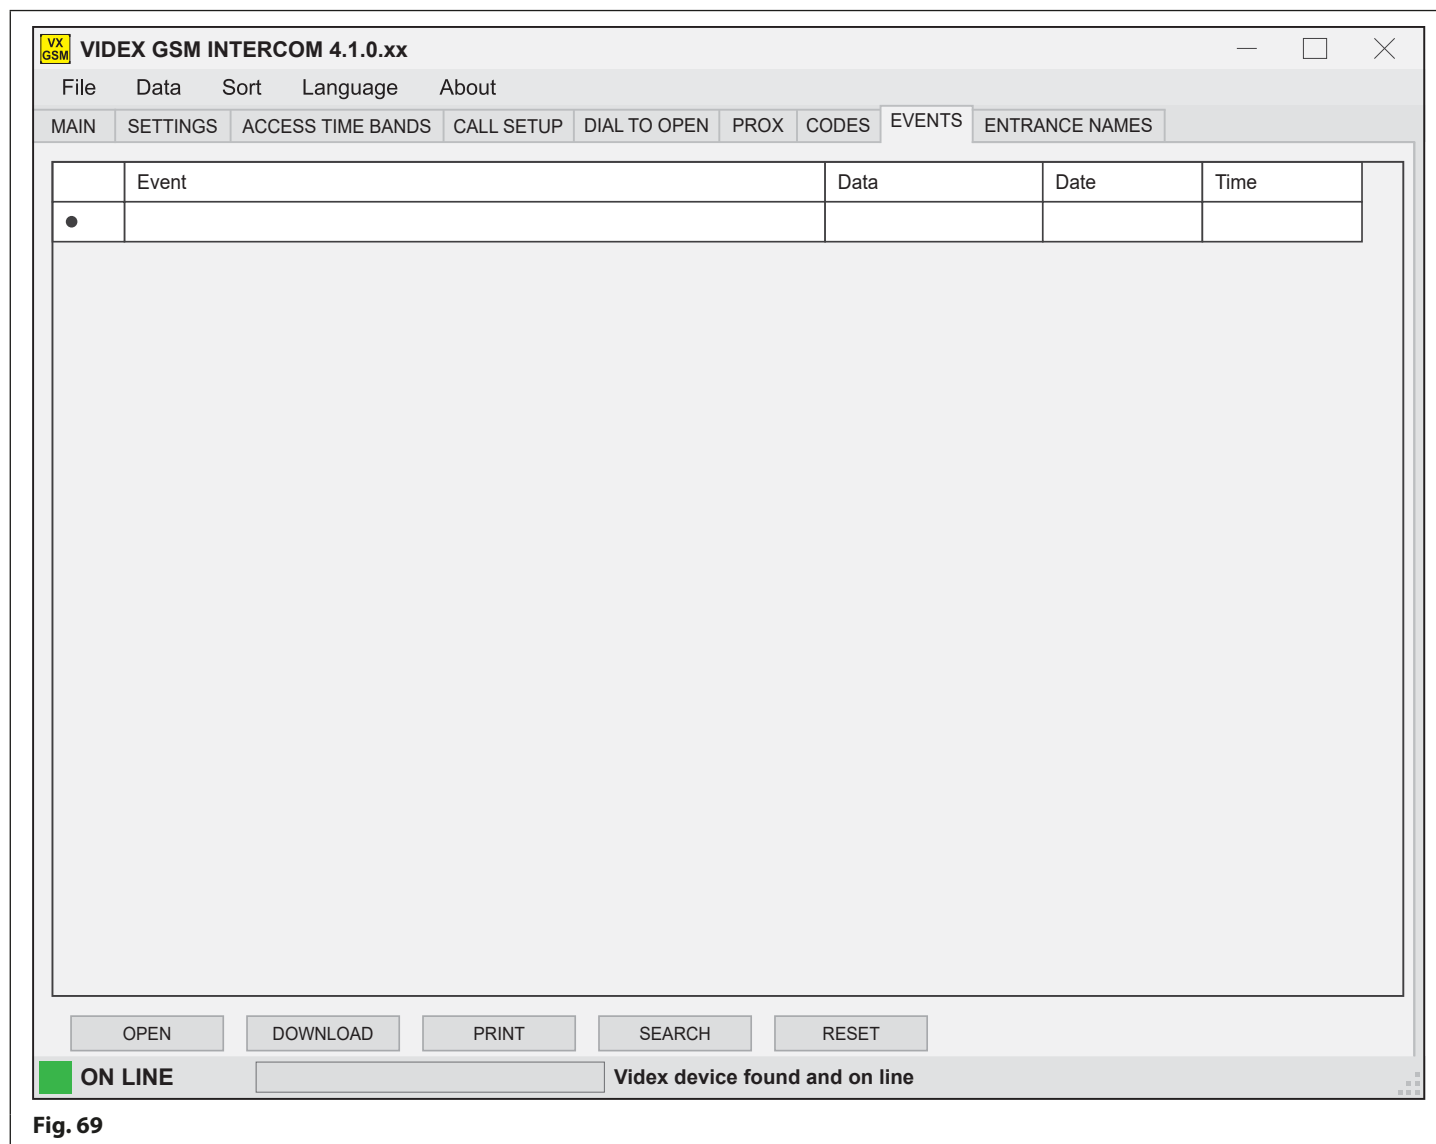

Fig. 69
The events window layout is the same for each of the GSM systems, refer to **Fig.69**.
- First click on the **'OPEN'** button at the bottom left of the events screen (see **Fig.69**).
- First click on the **'DOWNLOAD'** button at the bottom of the events screen (see **Fig.69**).